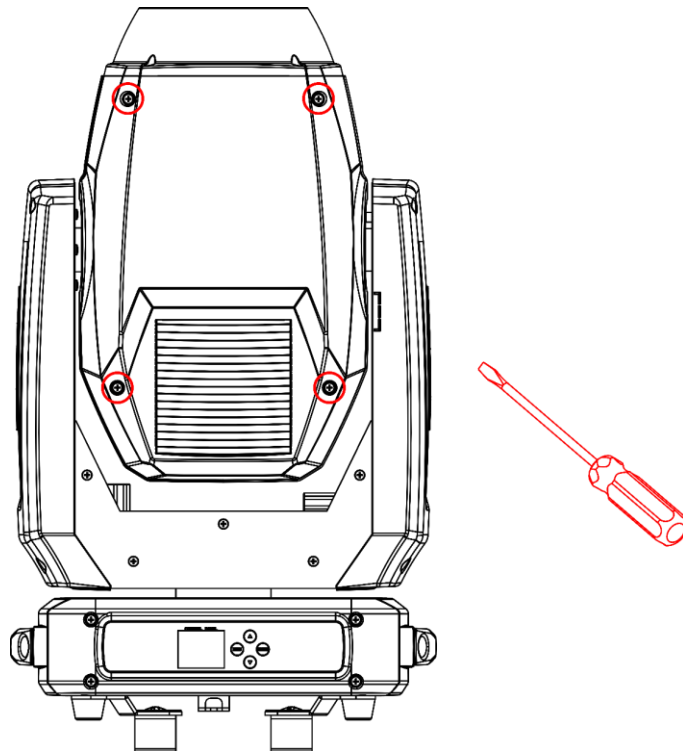

Fig. 13
- 03) Loosen the 4 screws on the head cover, as shown in Fig. 13.